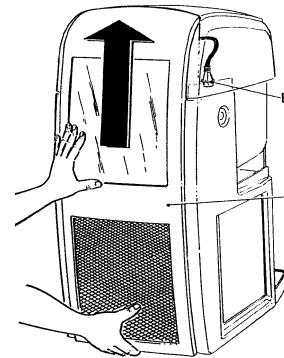

FIGURE 28
- Disconnect the plug (D in FIGURE 28).
- Lift and remove the back (E in FIGURE 28).